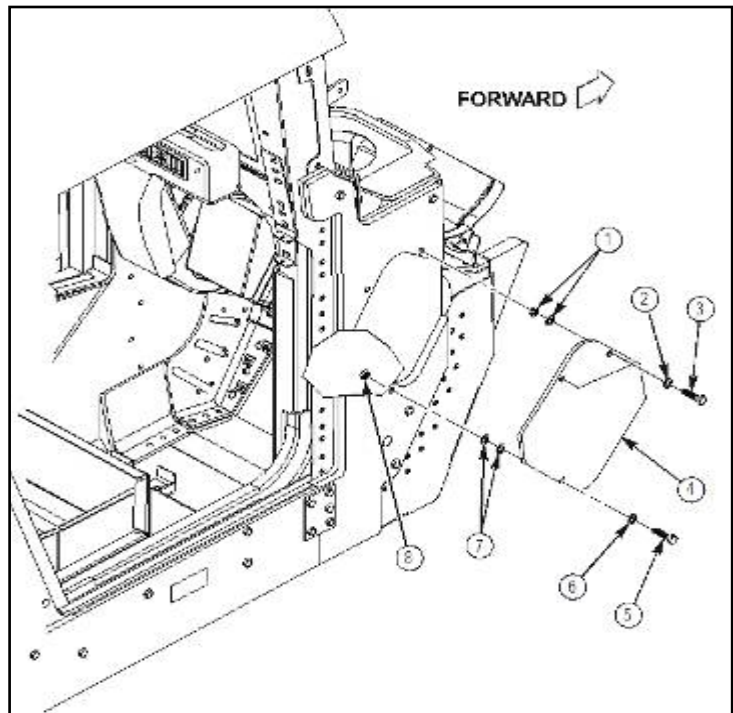

Figure 36
28. Apply 8030-01-025-1692 sealing compound to threads of two 4397000-040 capscrews (3). Refer to figure 36.
29. Install 6435013-01M1 or 6435013-200M1 breather cover (4) with two 4397000-040 capscrews (3), two 4397005-013 washers (2), and four 4397083-001 aluminum washers (1) as shown in figure 36. Do not tighten capscrews (3) at this time.
30. Install 4397000-072 capscrew (5), 4397005-015 washer (6), two 4397083-001 aluminum washers (7), and one 4397064-005 locknut (8) as shown in figure 36. Tighten two capscrews (3) to 21 lb-ft (28.5 N·m), and locknut (8) to 37 lb-ft (50.2 N·m).